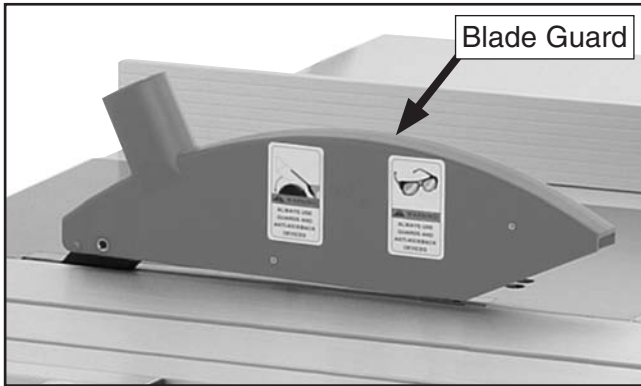

Figure 25. Blade guard installed.
26. Move the fence out of the way, and install the blade guard (Figure 25) per the instructions on Page 31. (This step is mandatory.)